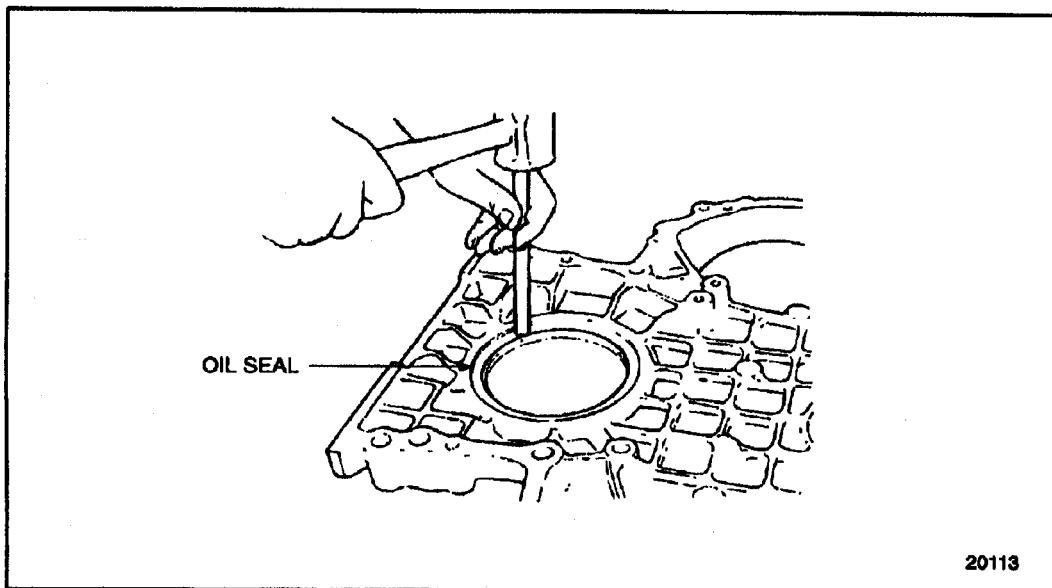

Figure 1-127 Front Crankshaft Oil Seal Removal
2. Drive the oil seal out with a brass drift and hammer. Clean the seal bore in the housing. See Figure 1-127.